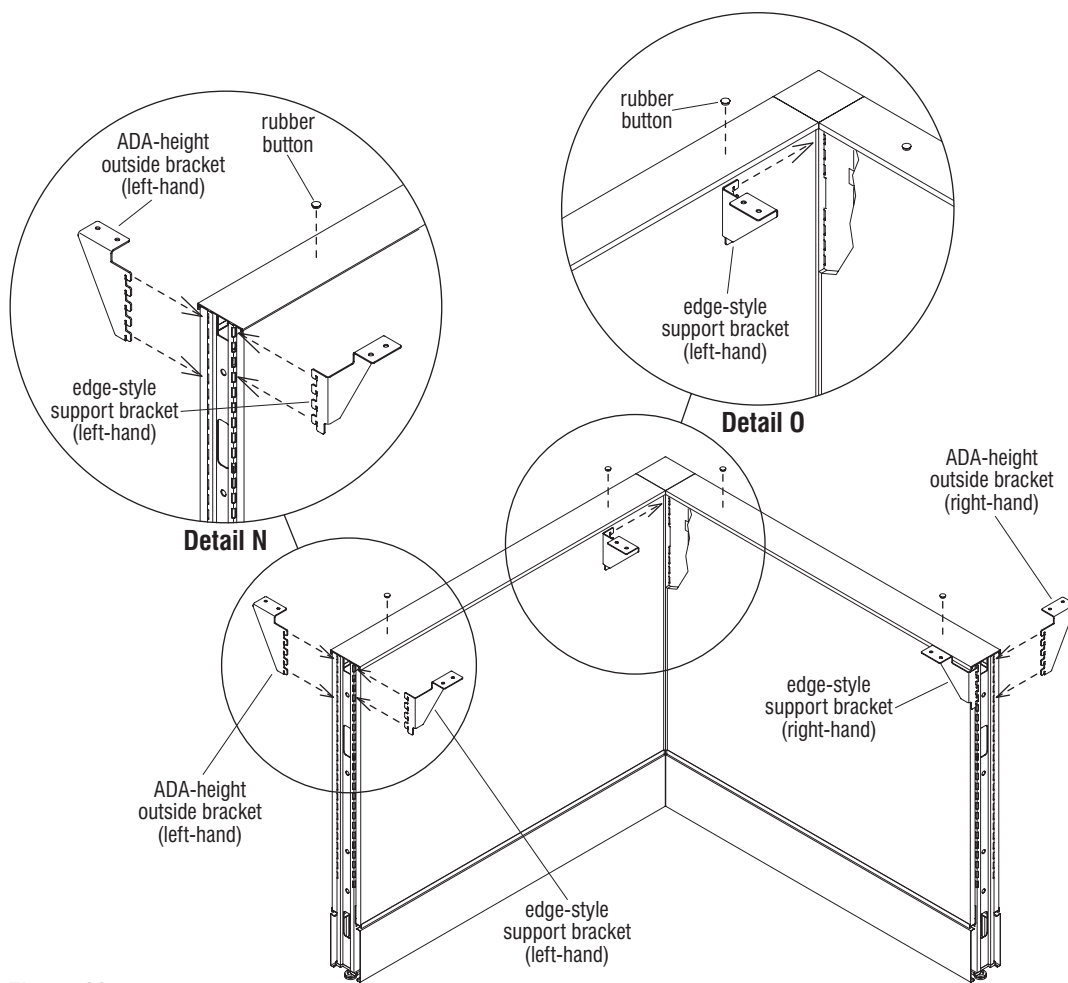

Figure 12
1. Unite Panel top caps must be installed, then adhere two self-stick rubber buttons to the top of both top caps as illustrated. Spacing of buttons is approximate, and buttons prevent the countertop from incidental contact with the top cap (Figure 12, Details N & O).
Note: An attachment bracket "pair" consists of an edge-style support bracket installed to the "inside", user side, as well as an ADA-height outside bracket installed to the "aisle side" of the Unite Panel corner unit. Additionally, an edge-style support bracket must be installed at the center, inside of the corner panel unit (Figure 12, Details N & O).
2. ADA-height bracket pairs are right-hand (Figure 12) or left-hand (Detail N) in design, so one bracket pair will install to the left-hand side, and the other pair will install on the right-hand side of the corner panel unit to support an ADA-Height corner transaction countertop. To install both bracket types (at inside and outside), identify the top slot of the panel vertical post and insert the top tooth of the appropriate bracket into that top slot. Rotate the bracket down to engage all teeth into slots in the vertical post, then press down firmly to engage all teeth into the slots. The horizontal top of all installed brackets should be about 1/8" above the top of the panel top cap. Check bracket for
full engagement by pulling straight back firmly in a horizontal motion (Figure 12 & Detail N).
panel vertical post and insert the top tooth of the bracket into the top slot. Rotate the bracket down to engage all teeth into slots in the vertical post, then press down firmly to engage teeth into the slots. The horizontal top of the bracket should be about 1/8" above the top of the panel top cap. (Figure 12 & Detail O).